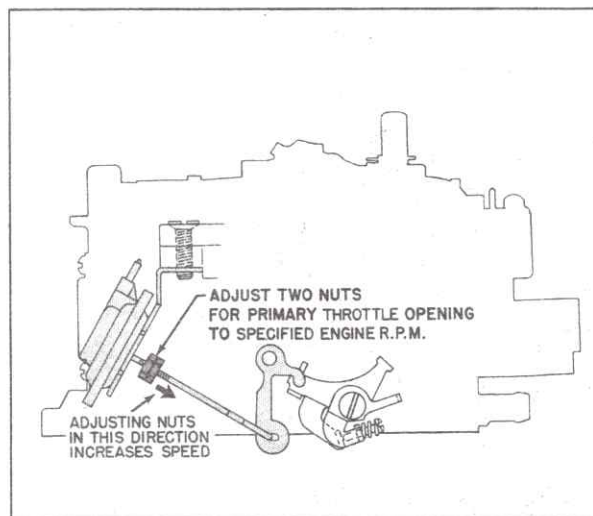

Fig. 6-112 Air Conditioning Idle Speed Up Adjustment
5. Adjust nuts on idle speed-up control rod, Fig. 6-112, to maintain an idle speed of 900-950 RPM. Secure adjuster nuts.